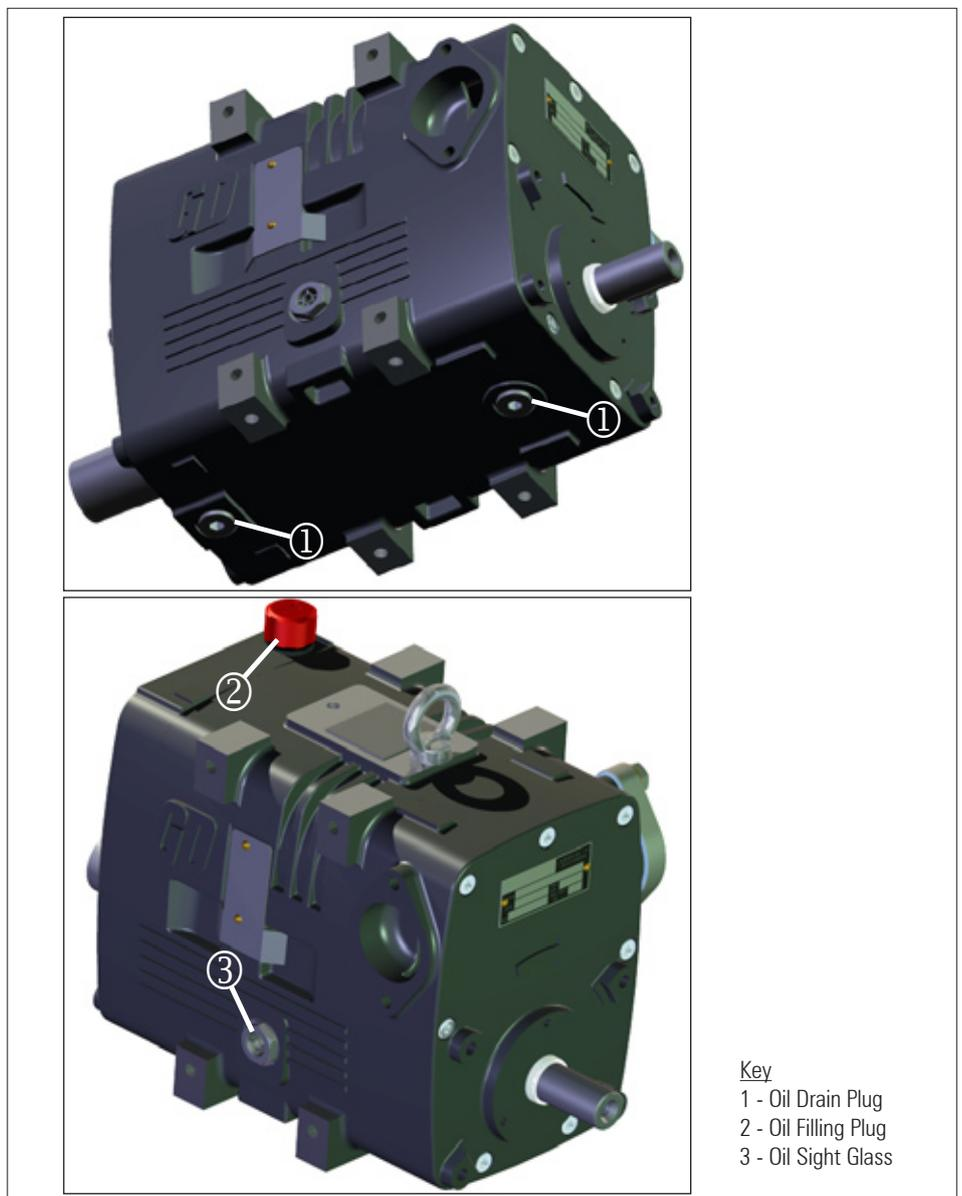

Figure 6. Oil Change
- Remove the oil drain plugs. (Fig. 6/1).
- Remove the oil filling plug (Fig. 6/2) and fill with approx. 1.2 litres of new oil.
- Stop filling when the level reaches the top edge of the oil sight glass (Fig. 6/3).